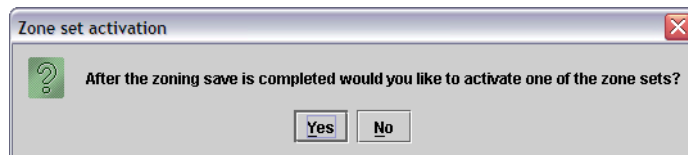

Figure 24-11 Activate Zoning
8. You will be asked if you want to activate this zone after you have created it (Figure 24-11).